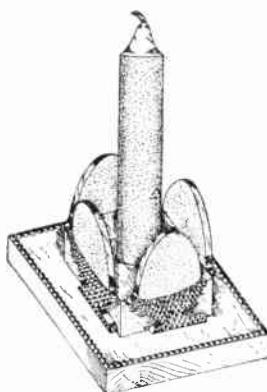

Fig. 1—Completed holder
**A** PAIR of artistic candle holders make a very acceptable present, and the design illustrated by Fig. 1, is well worth making. The holders
The acorns when made are carefully fixed in position with glue on the sides of the top portion of the base, as clearly seen in Fig. 1. Strips of ½in. half-round beading are glued on the edges of the base, as shown, which adds to the artistic nature of the object.